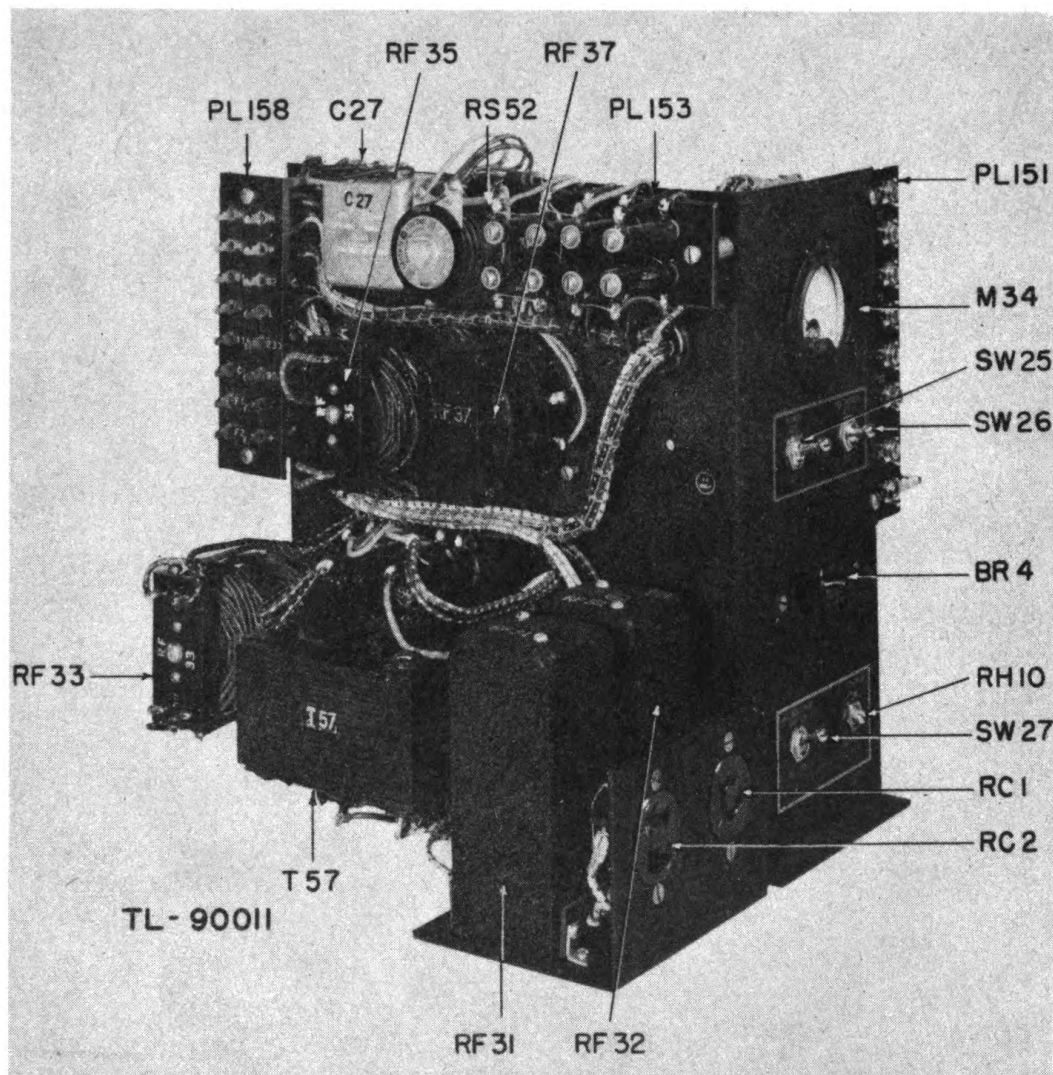

Figure 7. Control section, subassembly.
(3) The control section subassembly is mounted on a vertical steel panel and includes the voltmeter, circuit breaker, power switch, meter switch, high-low switch, output voltage-adjusting potentiometer and other parts (fig. 7).
g. Place circuit breaker handle in right-hand position, ON (fig. 7).